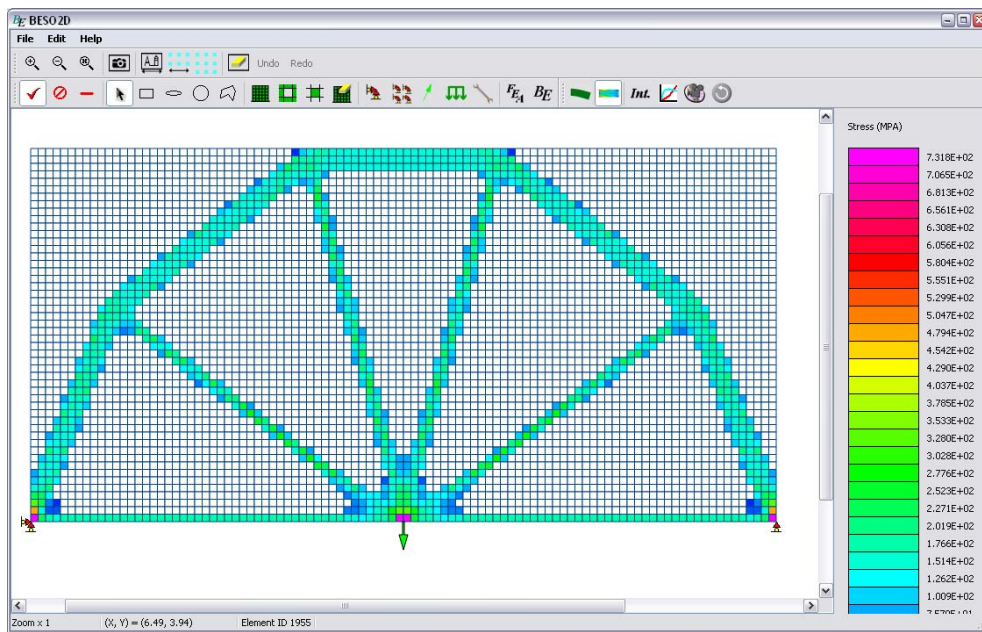

Figure 10 The final optimal design of the Michell type structure with 20.0% volume fraction.
- After a short while, the optimization run will stop and the final design with 20.0% volume fraction will be obtained as shown in Figure 10.